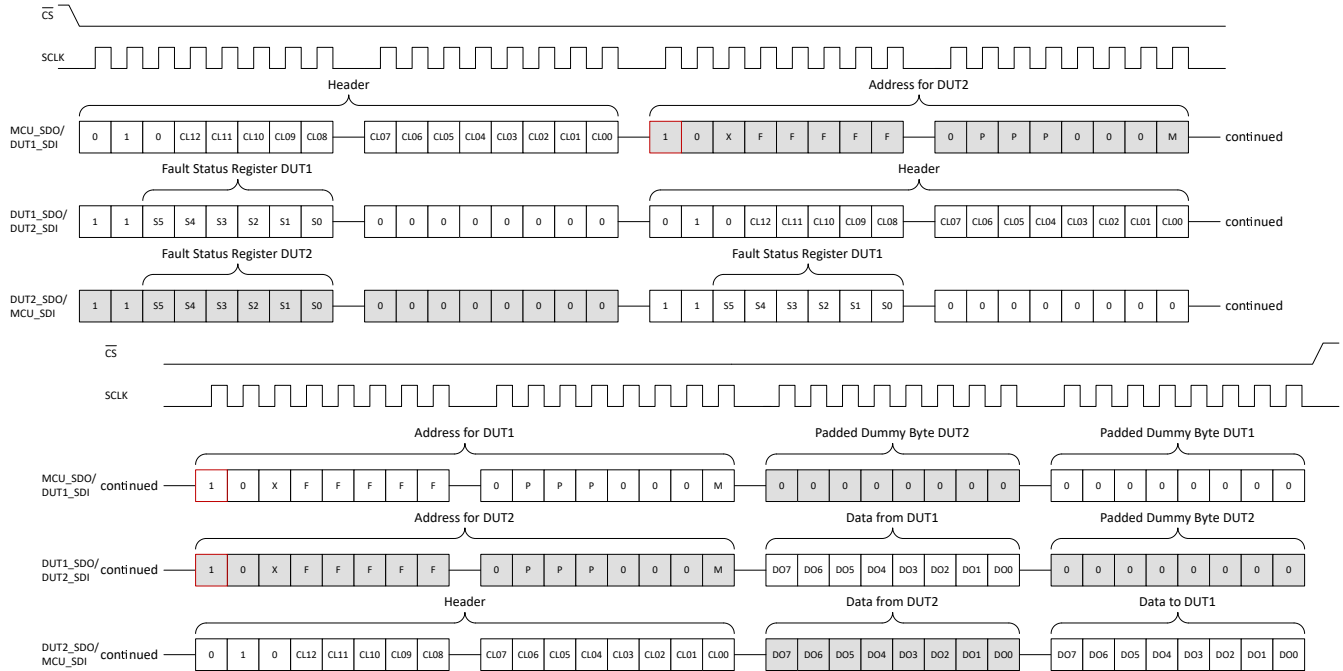

Figure 7-12. SPI Daisy Chain Read
Figure 7-12 shows an example of a daisy chain read for 2 devices in daisy chain. The header byte is transmitted with the chain length (CL) value of 2, followed by the address for DUT2, DUT1 and then the 8-bit dummy data-in for DUT2, DUT1. As the first device shifts the data out, it transmits its status segment, followed by the original header, address for DUT2, data-out from DUT1 and dummy data-in for DUT2. The final device in the chain sends its status, followed by status for DUT1 and finally data-out for DUT2, DUT1.